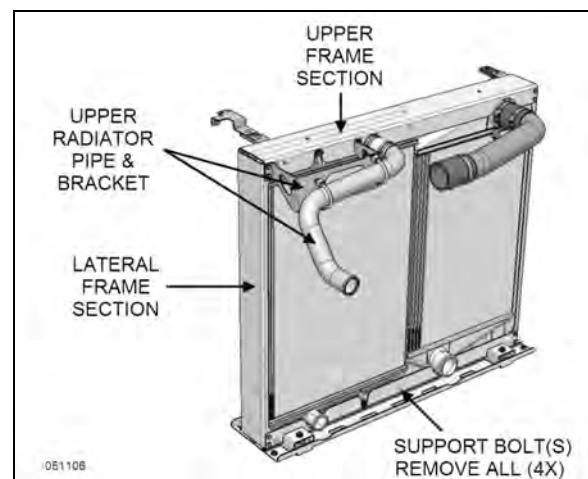

FIGURE 39: COOLING PACK PARTS TO BE REMOVED FOR RADIATOR REPLACEMENT
20. To proceed to the *radiator replacement*, remove radiator upper pipe section, bracket and hardware, unbolt the four support bolts passing through the radiator and holding it to the frame (upper & lower) also unbolt the cooling pack frame upper and lateral sections and slide the old radiator out (Figure 39).